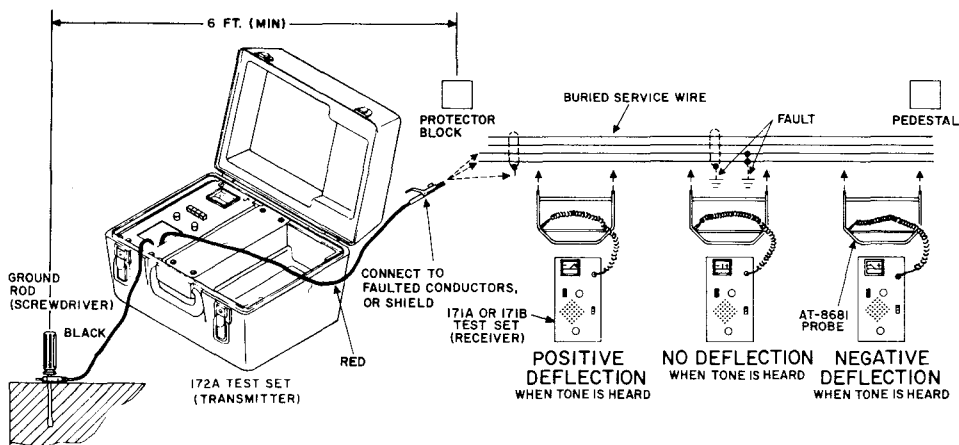

Fig. 10—Service Wire Fault Pinpointing
SERVICE WIRE FAULT PINPOINTING (Fig. 10)
4.14 If the fault is exactly straddled with the probe, the meter deflection is neither **positive nor negative** when the tone comes on indicating that the ground probe is positioned at the fault. The fault is located on a straight line which runs halfway between the ground probe electrodes and perpendicular to each side of the ground probe frame. Leave the ground probe standing upright or mark this position (Fig. 10 and 11).